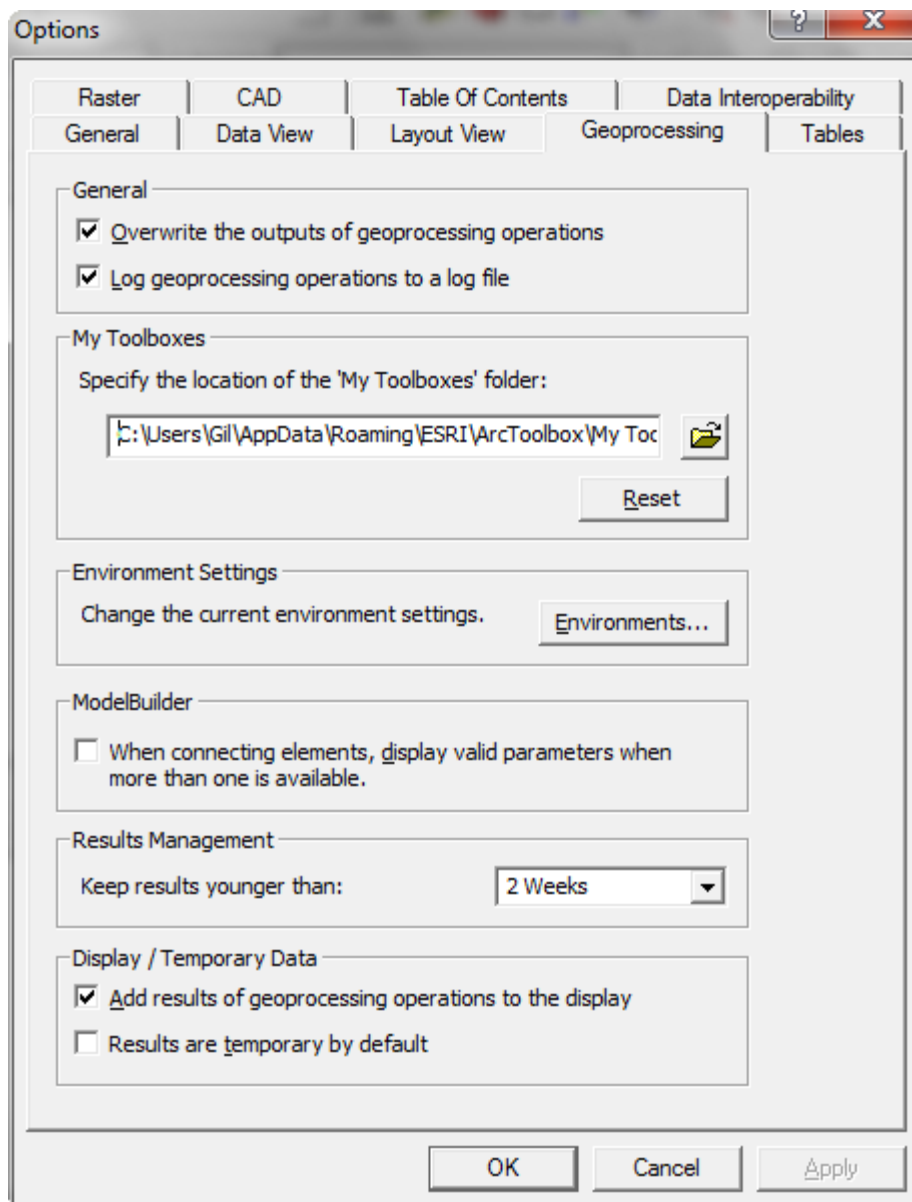

Figure 2 Setting geoprocessing tools to overwrite outputs by default, and to add results of geoprocessing tools to the display.
7. Activate the option: “*Overwrite the outputs of geoprocessing operations*” as shown in Figure 2.
8. Enable the option to “*Add results of geoprocessing operations to the display*” as shown in Figure 2.